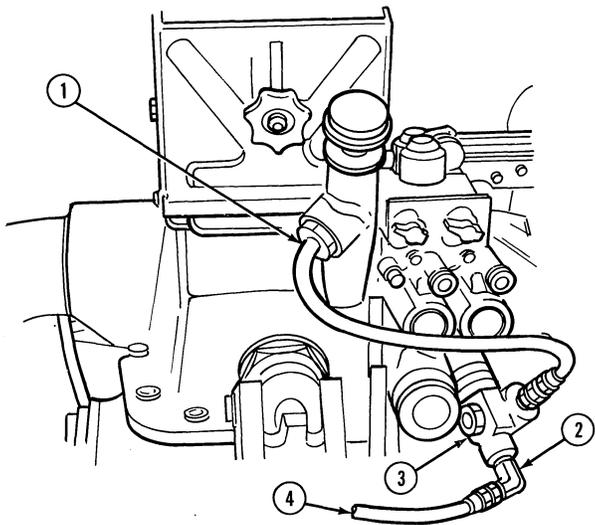

Figure 7
Three, four and six cylinder tractors with a stand pipe and a plug is shown in Figure 7. The plug on the stand pipe is a G 3/4" (3/4 B.S.P.). Procure locally an adapter to attach the relief valve return to sump hose.
Refer to Figure 7
1. Remove the plug (1) from the tractor stand pipe to provide a dump port, Figure 7.